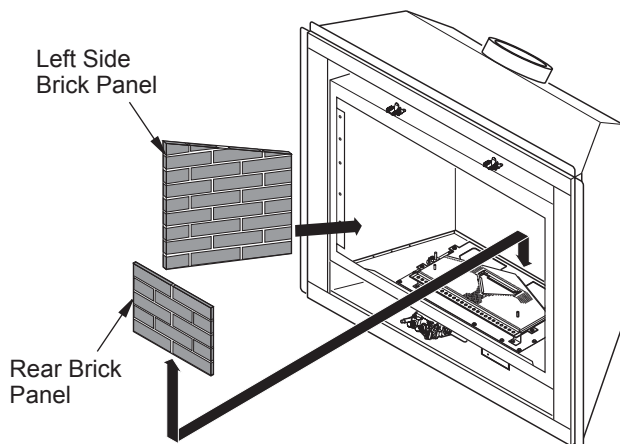

Figure 44 - Installing Rear Brick Panel
8. Install rear brick panel first. Rest bottom edge of panel on back edge of burner assembly (see Figure 44).
9. Install left side brick panel by sliding it between the burner assembly and the side of the firebox (see Figure 44).